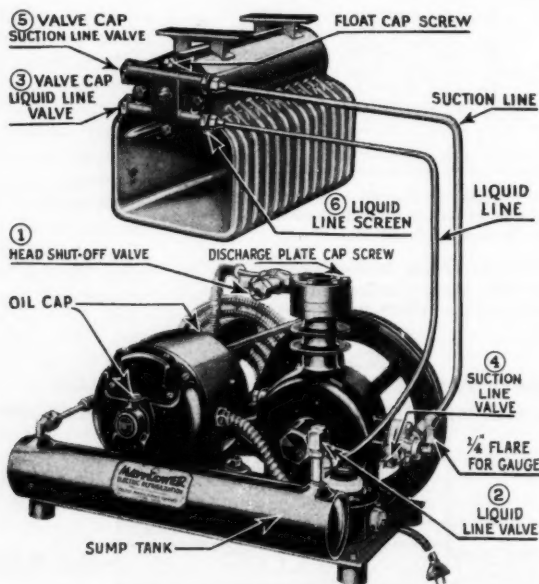
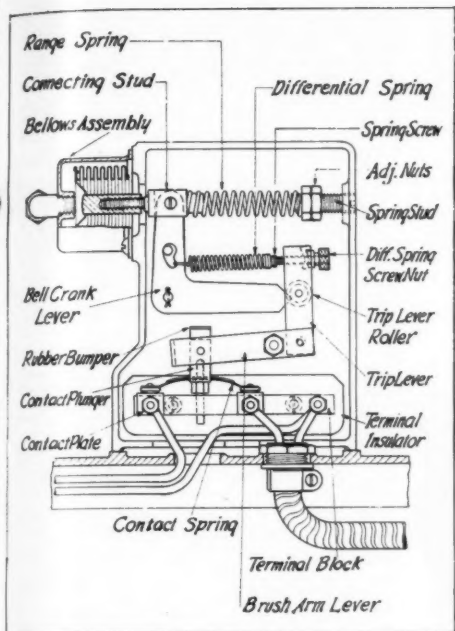

FIG. 1. ILLUSTRATION OF COMPLETE SYSTEM
FIG. 2. LOW PRESSURE SWITCH
Fulcrum screw connecting bellcrank lever and connecting stud out of place (Fig. 2).
All Mayflower Refrigerators built, including the 1929 Models, were controlled by Low Pressure Control as shown in cutaway (Fig. 2).
Figure 2 is a cutaway of low pressure switch. There are two adjustments on the switch. One being, Range Spring Adjustment, and the other, Differential Spring Adjustment. After compound gauge is properly installed, turn suction line valve (No. 4, Fig. 1) to right as far as possible. This shuts off suction line to cooling unit, allowing compressor to pull vacuum in crankcase and on gauge.
Check gauge at what vacuum the compressor stops at. If box is not cold enough and compressor stops at 6 inches of vacuum, turn adjusting nuts (Fig. 2) to left about two turns. This will increase vacuum and set job colder, or if box is too cold, turn adjusting nuts to right. This will stop compressor at less vacuum making job warmer. A switch setting at 7 inches vacuum to cut-out, and 5 pounds pressure to cut-in will give the proper temperature if machine is operating correctly.
In Figure 2, Differential Spring Adjustment. This adjustment changes both cut-in and cut-out point. Turn to right increases cut-in point, also increased cut-out, or vice versa.
Remove pipe plugs or seal caps in condenser and compressor shut-off valves (See Fig. 1) and insert $\frac{1}{8}$ " half union coupling and connect gauges by means of short piece of $\frac{1}{4}$ " tubing. Pressure gauge should be attached to condenser shut-off valve on top of cylinder. Compound gauge should be connected to compressor shut-off valve on side of compressor. Never put compound gauge on condenser side of system, as condenser pressure exceeds its gauge and would instantly ruin the gauge.
On Mayflow Refrigerators there are five hand-controlled shut-off valves, used for the purpose of repairing or disconnecting compressor and cooling unit without the loss of sulphur dioxide. See Fig. 1.
The three remaining valves are known as one-way shut-off valves (See Fig. 1).
(1) Test the interior of the cabinet for gas. If there is a trace of gas in the cabinet, remove the porcelain panel in front of cooling unit. Test the flare nut on suction valve. See Fig. 1. Repeat
(2) Check compressor for leaks as follows. Suction line valve flare connection (Valve No. 4, Fig. 1), liquid line valve flare connection (Valve No. 2, Fig. 1).
To remedy this condition first charge additional refrigerant into system. (See "How to Add Sulphur Dioxide," Section 13.) If during this process frost should appear on suction tube, it is a sure sign that the float valve is not seating properly. This condition while rare, occurs shortly after a machine has been installed and is largely caused by careless handling of cooling unit in transportation. The trouble can usually be rectified by closing compressor liquid line valve (Fig. 1) to right as far as possible. Run compressor for 25 minutes, then open compressor liquid line valve. The general effect of this procedure is to wash out any foreign matter that may have become imbedded in float valve seat. If, after all the above methods have been tried, the system continues to back frost, it will be necessary to replace cooling unit and return defective one to distributor for repair. See "Cooling Unit."
Close Liquid line valve (No. 2, Fig. 1) to right as far as possible. Run compressor until liquid line at compressor becomes cold and then warms up to room temperature, this will indicate the sulphur dioxide liquid has left liquid line. This will require
about 6 or 8 minutes. Then close liquid line valve (No. 3, Fig. 1) at cooling unit. To do this remove porcelain front and temperature control, then remove valve caps on left of float valve header (Fig. 1). Immediately close suction line valve (No. 5, Fig. 1). This will evacuate suction line. Close suction line valve (No. 2, Fig. 1) to right as far as possible at compressor. Stop compressor. Lines at cooling unit or compressor may be disconnected without gas odor.
First see if suction line valve (No. 4, Fig. 1) is turned to left as far as possible. Remove cap on compressor shut-off valve elbow. Attach one end of a short piece of 1/4" tubing with union nut on each end. Attach service cylinder to other end and open valve on same, keeping cylinder in an upright position.
Now close compressor shut-off valve (No. 4, Fig. 1) by turning to right as far as possible. Start compressor and place cylinder in a pail of warm water, which adds heat and raises the pressure.
After running compressor for ten minutes, open compressor shut-off valve (No. 4, Fig. 1) to left as far as possible and allow compressor to complete a full operating cycle. If sufficient gas has been charged in compressor, hissing in cooling unit will cease. If not, repeat above operation.